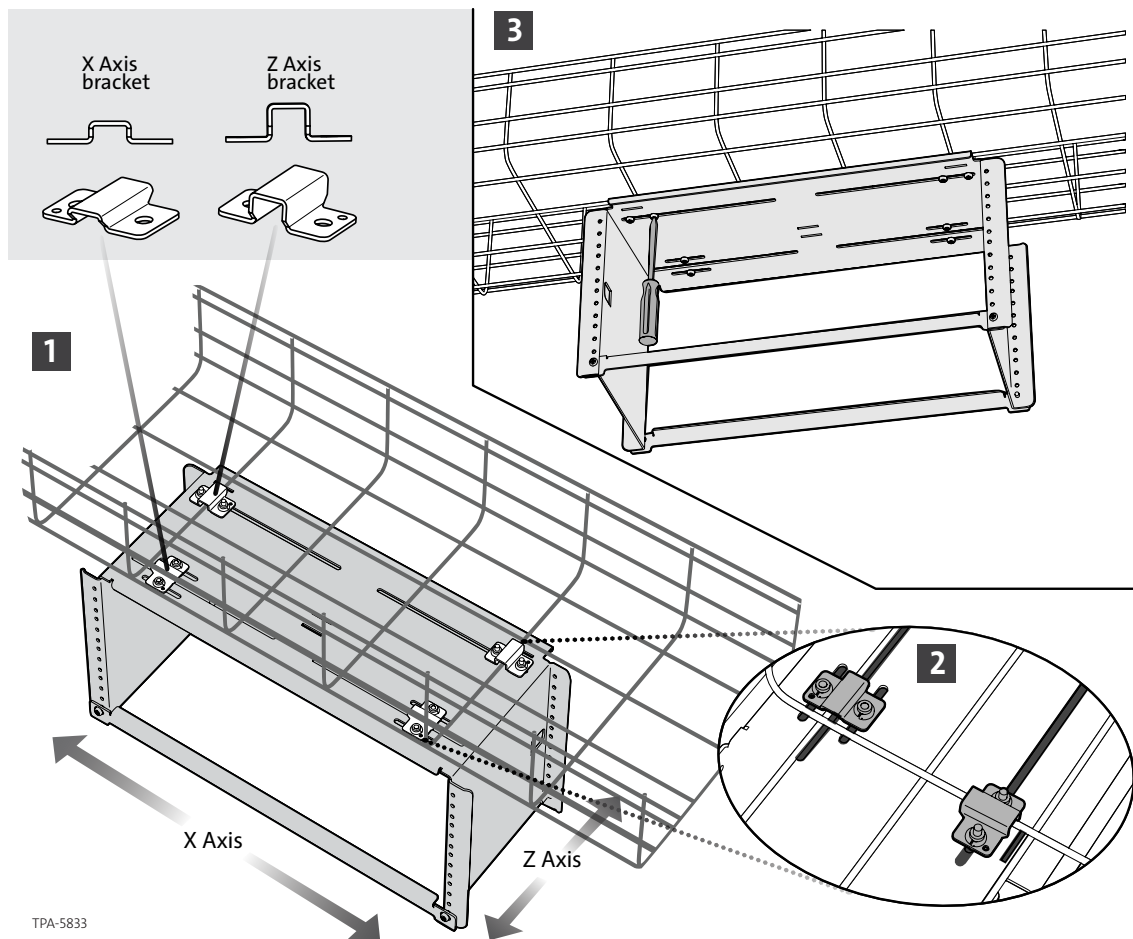

Figure 2
Step 2: The second person aligns the X axis and Z axis brackets over the wire tray in line with the slots in the mini-frame (Figure 2).